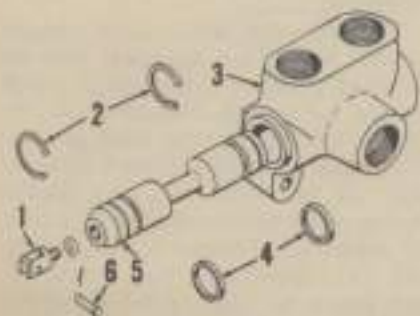

Fig. 165—Selector valve shown is available as optional equipment. See paragraph 250.
**250. SELECTOR VALVE.** Selector valve (See exploded view in Fig. 165) is used on tractors equipped with or without a transport valve to permit use of single acting remote cylinder with regular tractor hydraulic lift-lower lever. When the selector valve lever is raised, oil is diverted from the tractor lift arm to operate a remote cylinder. Spool valve (5) and body (3) are serviced only as a complete valve assembly. Seals (4) and other parts are renewable.